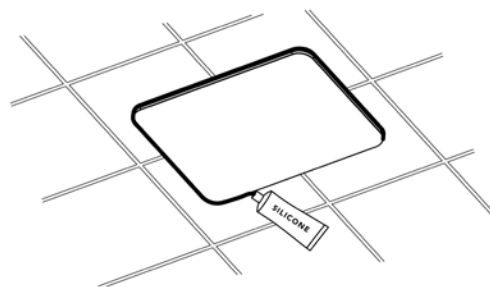

Figure 14
5. Apply a bead of silicone around the perimeter of the fixture (**Figure 14**) as required to create a moisture seal between the fixture and the steam room ceiling. Use tape or other means as required to keep the fixture in position as the silicone cures, for 24 hours.